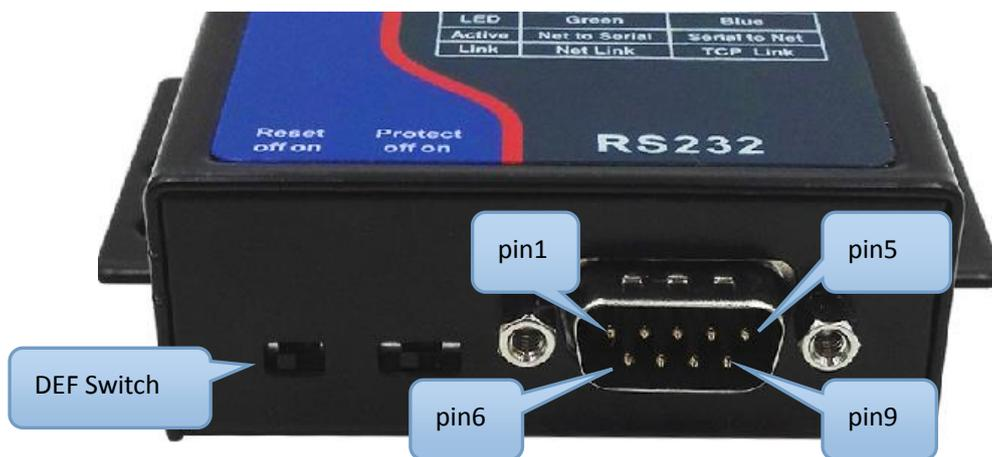

Figure 5 RS232 Interface and Dial Code
4. **RS232:** DB9 male head is adopted, and the needle sequence of RS232 is shown in figure 5.
5. **Reset switch:** also known as DEF switch, as shown in figure 5. When the DEF switch is On (the right side of figure 5 is On), the serial device server will start loading the default parameters, and when pressed to On state for 5 seconds, the default parameters will be used to restart. The default parameters only affect the following parameters: IP mode to static, IP address to 192.168.1.254, subnet mask to 255.255.255.0, gateway to 192.168.1.1. Other parameters such as baud rate will not be reset. If all parameters need to be reset, please use the "system default parameter" of ZLVircom configuration tool for modification. The DEF switch is mainly used to make it easy to enter 192.168.1.254 in the browser to reconfigure the device when the IP is forgotten. The Protect switch is for future use.